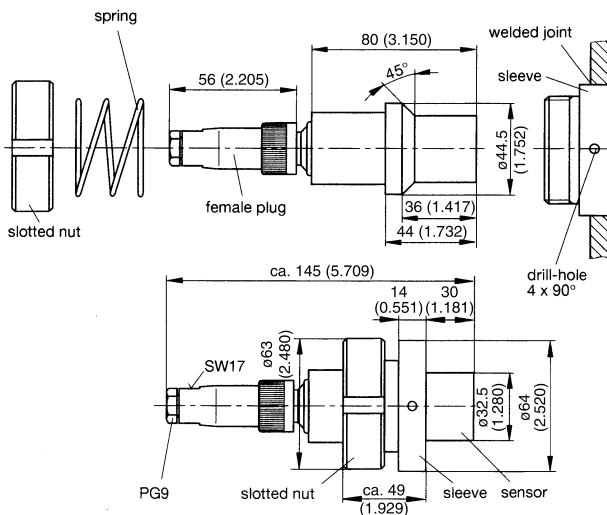

Fig. 1
1. Ensure sufficient clearance space (see fig. 1 and 2) in the container wall.
Installation STD (fig. 1):
1. Loosen the gland (PG9) (see fig. 1) and remove it together with clamping piece and bushing.